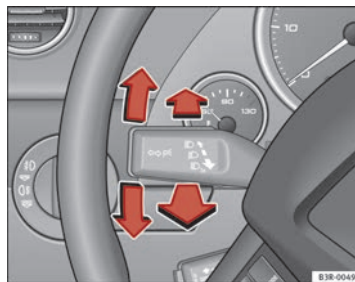

Fig. 92 Turn signal and main beam headlight lever
- Move the lever all the way up to indicate right or all the way down to indicate left \Rightarrow fig. 92.